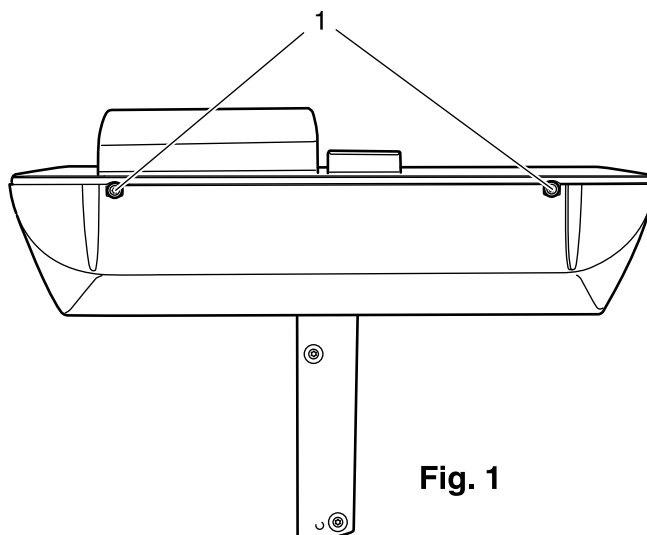

**Fig. 1**
5. Apply the front cover and install the connecting cable (Fig.1).